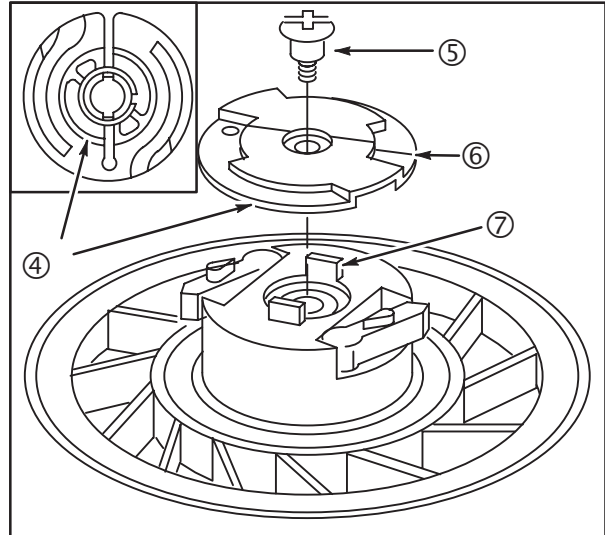

Fig. 63
2. Install retainer making sure that slots (4) in retainer (6) engage tabs (7) on pulley, **Fig. 63**.
3. Hold retainer down, compressing dog springs and install retainer screw (5). Torque screw to **70 in. lbs. (8 Nm)**.